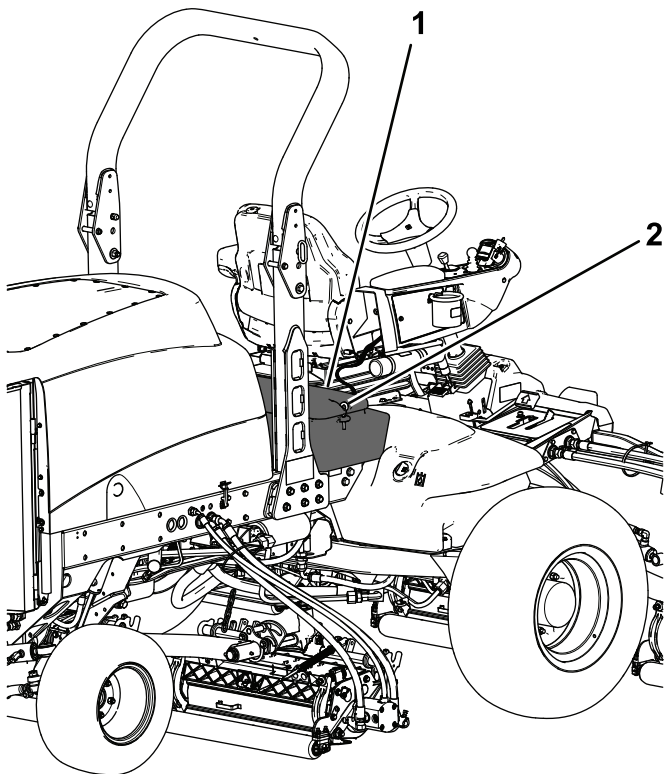

Figure 59
2. Unlatch and raise the operator's console panel (Figure 59).